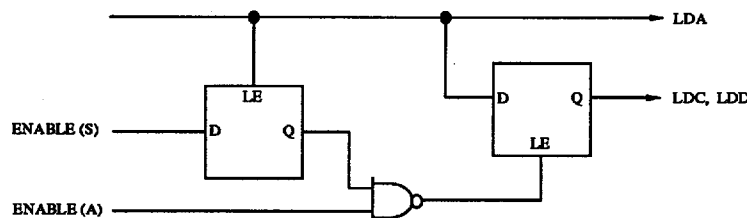
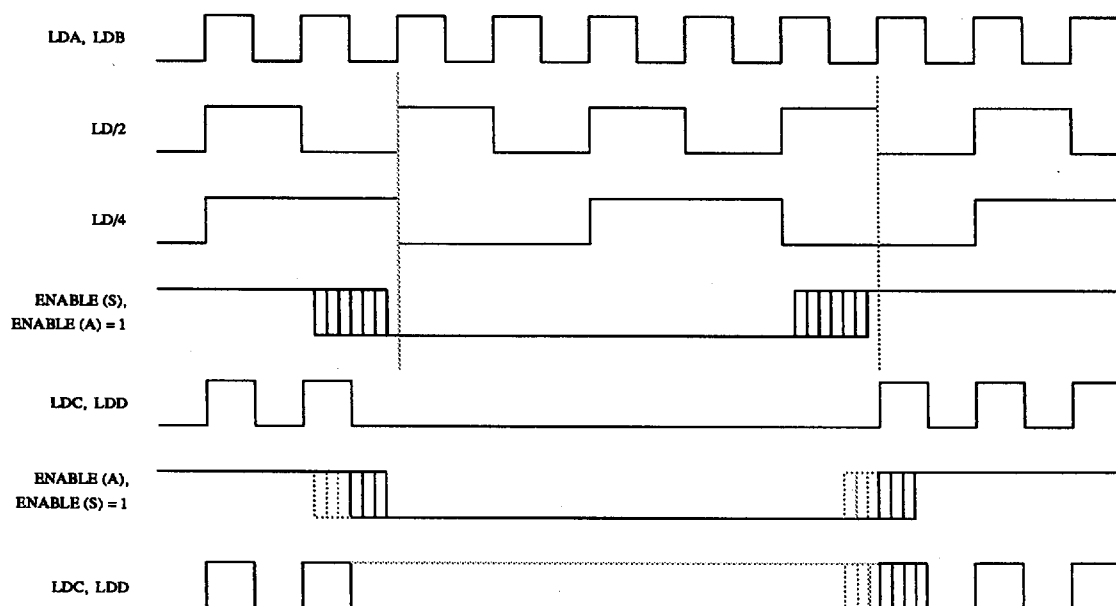

Figure 1. ENABLE Control Implementation.
Figure 2. Load Output Timing.
While both ENABLE (S) and ENABLE (A) are logical ones, LDC and LDD will be free running, and in phase with LDA and LDB. This architecture allows the shift registers of the video DRAMs to be optionally nonclocked during the retrace intervals. Figure 1 illustrates the ENABLE implementation within the Bt438, while Figure 2 shows the load output timing.